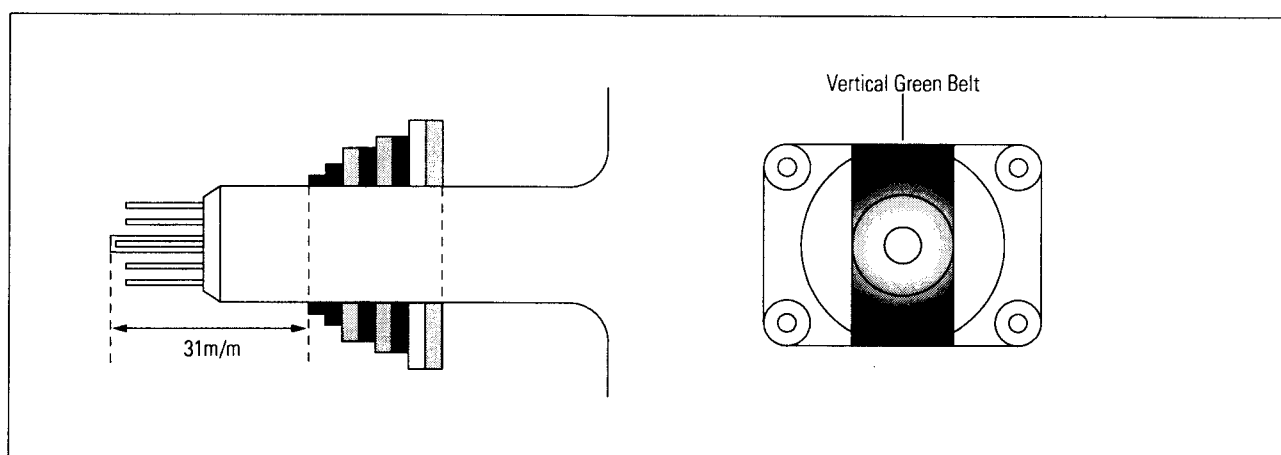

Fig. 5-2 Center Convergence Adjustment
7. Loosen the clamp screw holding the yoke. Slide the yoke backward or forward to provide vertical green belt. (Fig. 5-2).